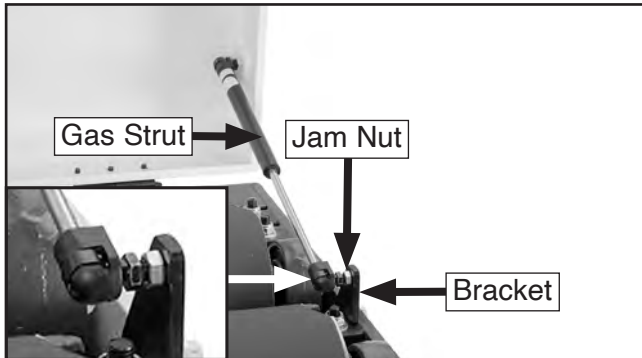

Figure 14. Gas strut installed (right side shown).
3. Hold top cover open and attach each gas strut to bracket and secure with jam nut, as shown in **Figure 14**.